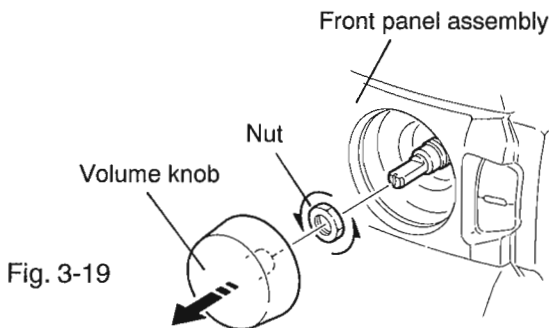

Fig. 3-19
(See Figs. 3-19,20)
4. Remove the volume knob from the front of the frontpanel assembly. (See Fig. 3-19)
5. Remove the nut fastening the volume control from the front panel assembly. (See Fig. 3-19)